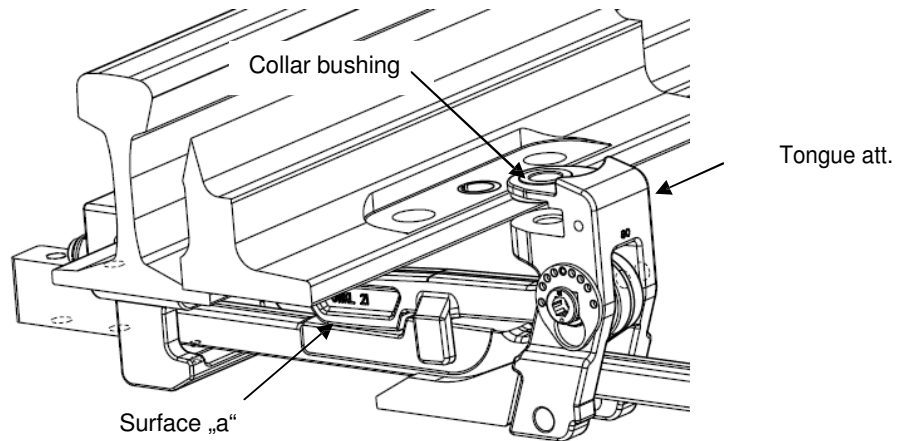

Fig. 5 Assembly of the tongue attachment
- In condition as delivered, the collar bushing (10) is glued to the tongue attachment (1) for easier assembly (Fig. 5)